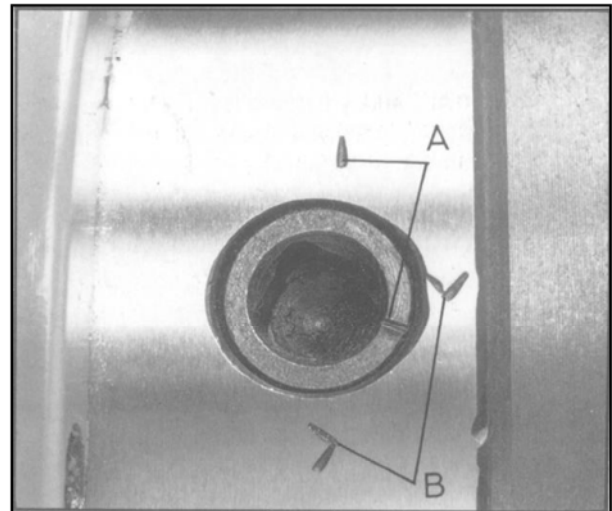

Fig. 17
5. Lift the chuck up to the spindle nose and press onto the spindle. Tighten in place by turning the cam locks 1/4 turn clockwise. The index mark (A, fig. 17) on the camlock should be between the two indicator arrows (B, Fig. 17). If the index mark is not between the two arrows, remove the chuck and adjust the camlock studs by either turning out one full turn (if cams will not engage) or turning in one full turn (if cams turn beyond indicator marks).